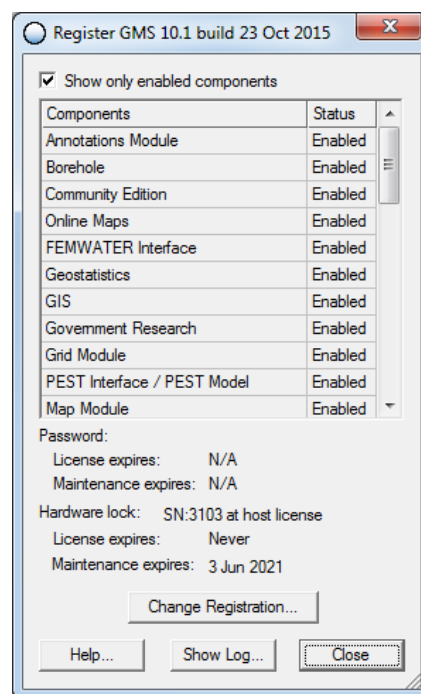

Figure 1 Enabled components
2. If the user has a valid license, the dialog in Figure 1 appears. Make sure the required components listed at the beginning of this tutorial are enabled. If any of the required components are not enabled, enable them by requesting an evaluation license, or skip the parts of the tutorial that require them.